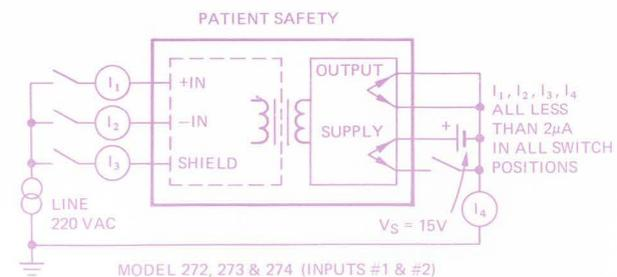

Figure 2
Defibrillator and "fail safe" protection is achieved using passive elements for ultimate reliability. Each model will repeatedly support a 5kV defibrillator pulse from input to output or directly across the ECG input leads, except for model 273J. Eliminated is the need for any additional patient circuit current limiters or other special external devices (spark gaps, neon bulbs, zener diodes, FETs), which tend to degrade CMR, decrease reliability and increase cost. Patient safety test circuits (272, 273, 274) for these designs are shown in Figures 2 and 3.
This design is available to meet the most demanding requirements for amplifier and patient protection simultaneously. Referring to model 272 block diagram and the safety circuits (Figures 2 and 3) the input stage employs a $20M\Omega$ guarded resistor (R) to limit differential fault currents to $10\mu A$ in the event a catheterized patient develops 220VAC between patient-connected high and low electrode. This can occur through an inadvertent connection to power ground through misapplication or via other equipment grounds. Of course, a full 5kV defibrillator voltage is easily supported across the inputs and from all input leads to output common. The price of this protection is a relatively high amplifier noise level (typically $35\mu V/p-p$) arising from the $20M\Omega$ Johnson noise. Model 272J, with ± 3 volt dynamic signal swing and unity gain, is most useful for those designs requiring ultimate safety to both amplifier and patient (or transducer) circuit. It is extremely useful in high radiation environments where strong emission may destroy input circuitry.
| Safety Current Limits | Fig. 2 & 3 | Fig. 2 & 3 | Fig. 2 & 3 |